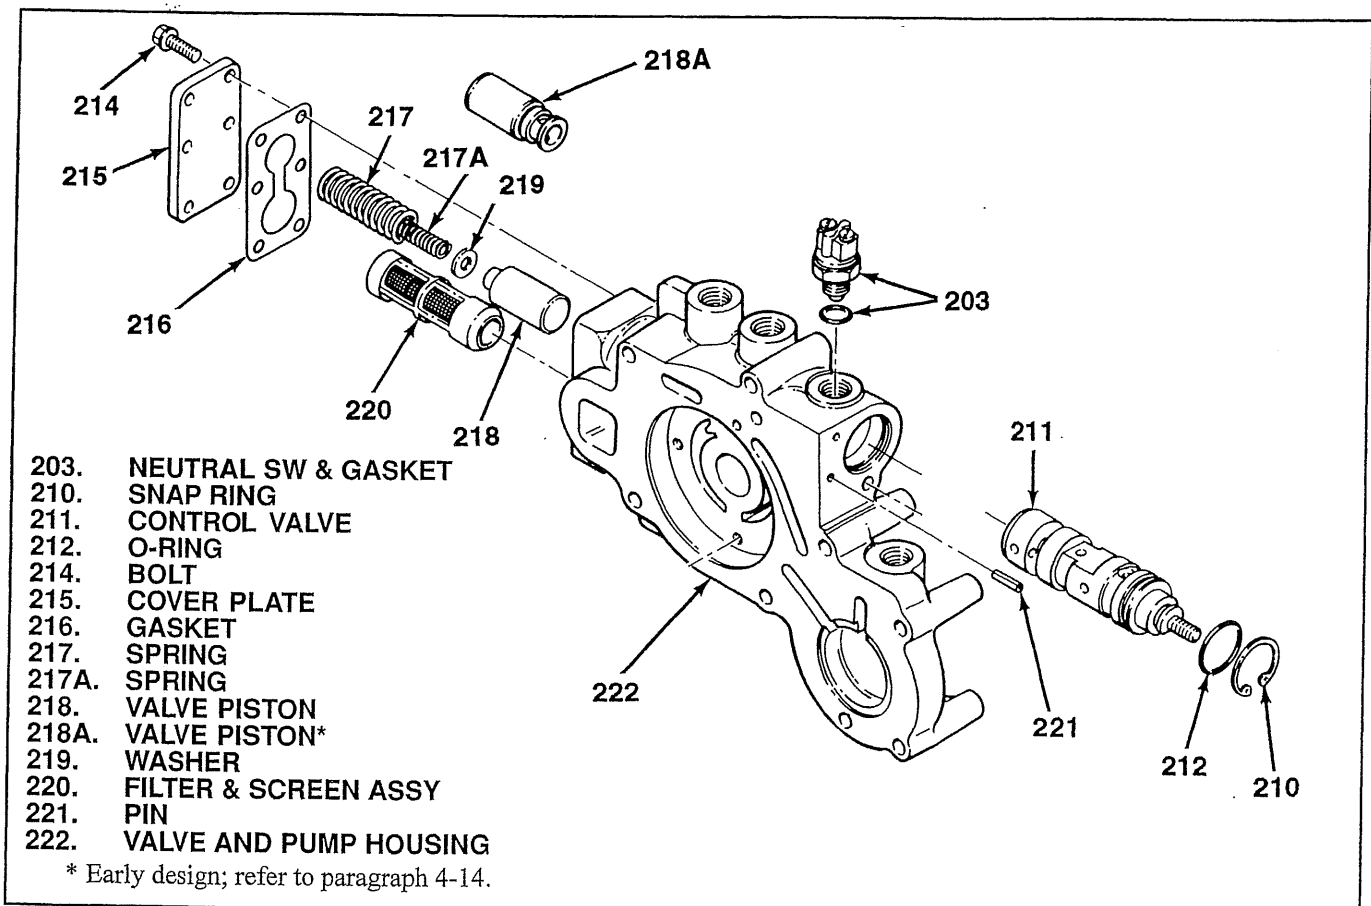

Figure 3-8. Control Valve, Piston and Filter
**3-15. REMOVAL OF CONTROL VALVE, PISTON AND SCREEN.** After removing switch as described in paragraph 3-13, remove control valve, piston and screen as follows (see figure 3-8):
**CAUTION:** Control valve (211), valve piston (218 or 218A) and mating bores in valve and pump housing (222) are highly finished. Use care not to scratch or otherwise damage these surfaces. Damaged surfaces may result in, fluid leakage and shifting malfunctions.
1. Remove snap ring (210) and pull control valve (211). Temporarily thread nut (204) back onto control valve to aid in valve removal if necessary.
2. Remove o-ring (212) from groove in control valve (211).
3. Remove six bolts (214), cover plate (215) and gasket (216).